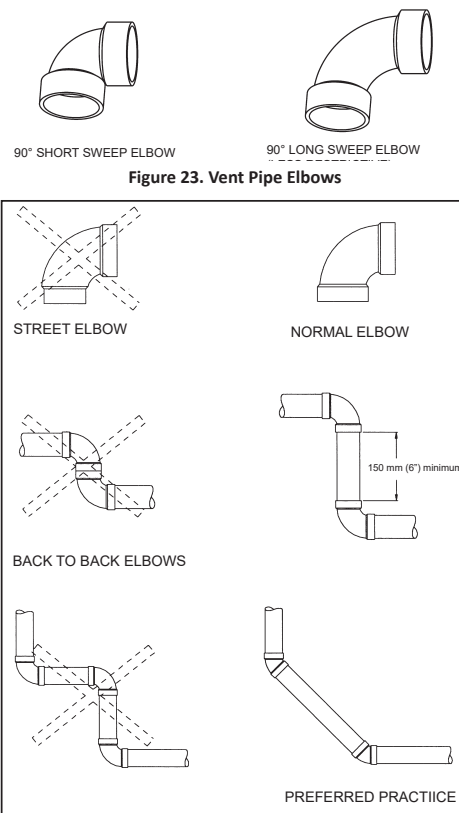

Figure 24. Vent Pipe Elbow Use
- Maintain a minimum 6" straight section between elbows. Closely coupled and short radius elbows reduce the venting capacity. **Figure 24** (page 23) shows examples of vent pipe connections.